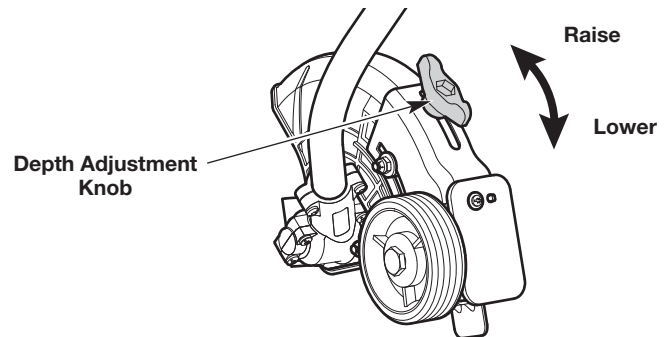

Fig. 14
3. Loosen the depth adjustment knob (Fig. 14).